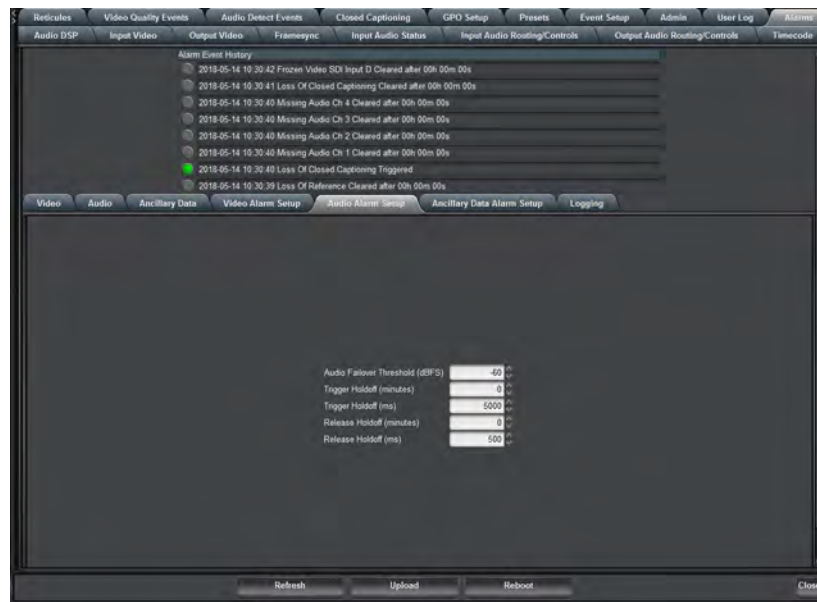

Figure 82 Example of the Alarms > Audio Alarm Setup Tab
- ★ Factory default hold-off and threshold settings shown in **Figure 82** are recommended for at least initial settings. If hold-off periods are too brief (or threshold set too high), nuisance alarms may be generated during transitions to and from programs and interstitials, as well as during certain content.